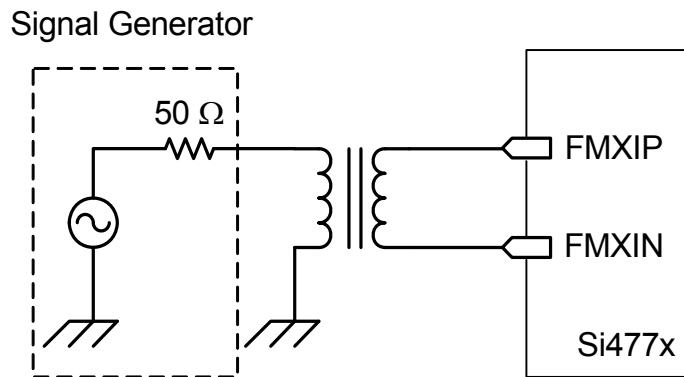

Figure 5. FM Test Circuit for Mixer Input IP3 and Sensitivity Measurement
5. Refer to FM test circuit in Figure 5.
<ol style="list-style-type: none"> <li>1. Guaranteed by characterization.</li> <li>2. Measured at <math>T_{AMB} = 25</math> °C.</li> <li>3. Guaranteed by design.</li> <li>4. IP3 measured at the FMXIP and FMXIN pins reflects IP3 for mixer stage and all subsequent downstream blocks.</li> <li>5. Refer to FM test circuit in Figure 5.</li> <li>6. No A-weighting. Noise integrated from 30 Hz to 15 kHz for audio SINAD and SNR measurements.</li> <li>7. Input resistance is software configurable.</li> <li>8. IP3 measured at the FMI input pin reflects IP3 for FMI LNA stage.</li> <li>9. RDS Synchronization Persistence is the minimum RF level at which the tuner loses synchronization to the RDS PI code as the RF level decreases from high to low levels.</li> <li>10. RDS Synchronization Stability is the minimum RF level at which the tuner achieves synchronization to the RDS PI code as the RF level increases from low to high levels.</li> <li>11. Noise integrated from 30 Hz to 120 kHz for audio SINAD and SNR measurements.</li> </ol>
<ol style="list-style-type: none"> <li>1. Guaranteed by characterization.</li> <li>2. Measured at <math>T_{AMB} = 25</math> °C.</li> <li>3. Guaranteed by design.</li> <li>4. IP3 measured at the FMXIP and FMXIN pins reflects IP3 for mixer stage and all subsequent downstream blocks.</li> <li>5. Refer to FM test circuit in Figure 5.</li> <li>6. No A-weighting. Noise integrated from <math>30</math> Hz to <math>15</math> kHz for audio SINAD and SNR measurements.</li> <li>7. Input resistance is software configurable.</li> <li>8. IP3 measured at the FMI input pin reflects IP3 for FMI LNA stage.</li> <li>9. RDS Synchronization Persistence is the minimum RF level at which the tuner loses synchronization to the RDS PI code as the RF level decreases from high to low levels.</li> <li>10. RDS Synchronization Stability is the minimum RF level at which the tuner achieves synchronization to the RDS PI code as the RF level increases from low to high levels.</li> <li>11. Noise integrated from <math>30</math> Hz to <math>120</math> kHz for audio SINAD and SNR measurements.</li> </ol>